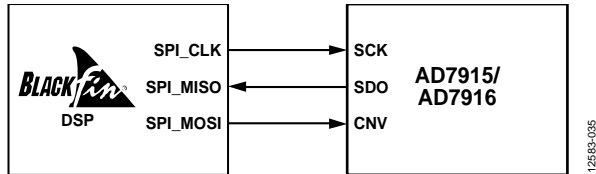

Figure 46. Typical Connection to Blackfin SPI Interface
- in chain mode if SCK is high during the CNV rising edge (see Figure 46).
A connection diagram example using three AD7915/AD7916 devices is shown in Figure 45, and the corresponding timing is given in Figure 46.
The AD7915/AD7916 can easily connect to a Blackfin® DSP SPI or SPORT. The SPI configuration is straightforward using the standard SPI interface, as shown in Figure 46.